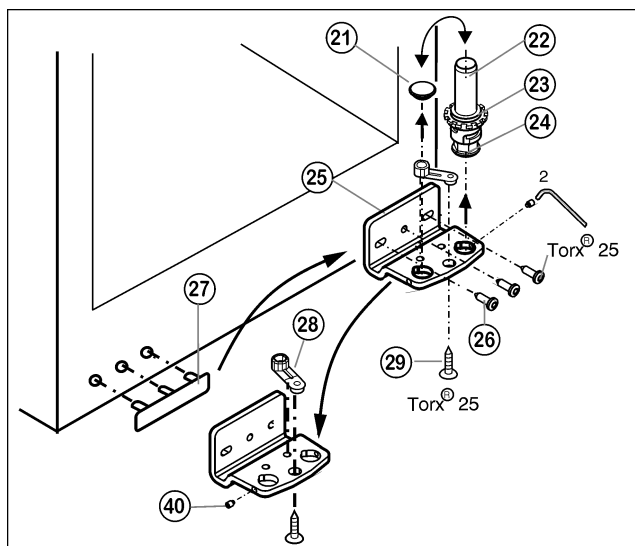

Fig. 6
- ▶ Using the accompanying Allen key, unscrew the threaded pin Fig. 6 (40) by about 1 turn.
- ▶ Turn and lift out the bearing pin Fig. 6 (22) together with the washer Fig. 6 (23) and adjustable-height foot Fig. 6 (24).
- ▶ Lift out the stopper Fig. 6 (21).
- ▶ Unscrew Fig. 6 (26) the turn hinge Fig. 6 (25).
- ▶ Fully unscrew the threaded pin Fig. 6 (40) and screw it in on the opposite side, at the turn hinge, until it is flush outside with the turn hinge.
- ▶ Unscrew Fig. 6 (29) the bearing element Fig. 6 (28) transfer it to the opposite location hole of the turn hinge and screw it firmly into place.
- ▶ Re-insert the stopper Fig. 6 (21) into the other hole.
- ▶ Carefully lift off the cover on the handle side Fig. 6 (27) and transfer it to the opposite side.
- ▶ Screw the turn hinge Fig. 6 (25) firmly into place on the new hinge side, possibly using a cordless screwdriver (with 4 Nm).
- ▶ Re-insert the bearing pin Fig. 6 (22) together with the washer and adjustable-height foot.
- ▶ Tighten the threaded pin Fig. 6 (40).
- ▶ Place the door from above onto the lower bearing pin Fig. 6 (22).
- ▶ Align the door to the appliance housing by way of the two oblong holes in the bottom turn hinge Fig. 6 (25). To do so, unscrew the middle screw.